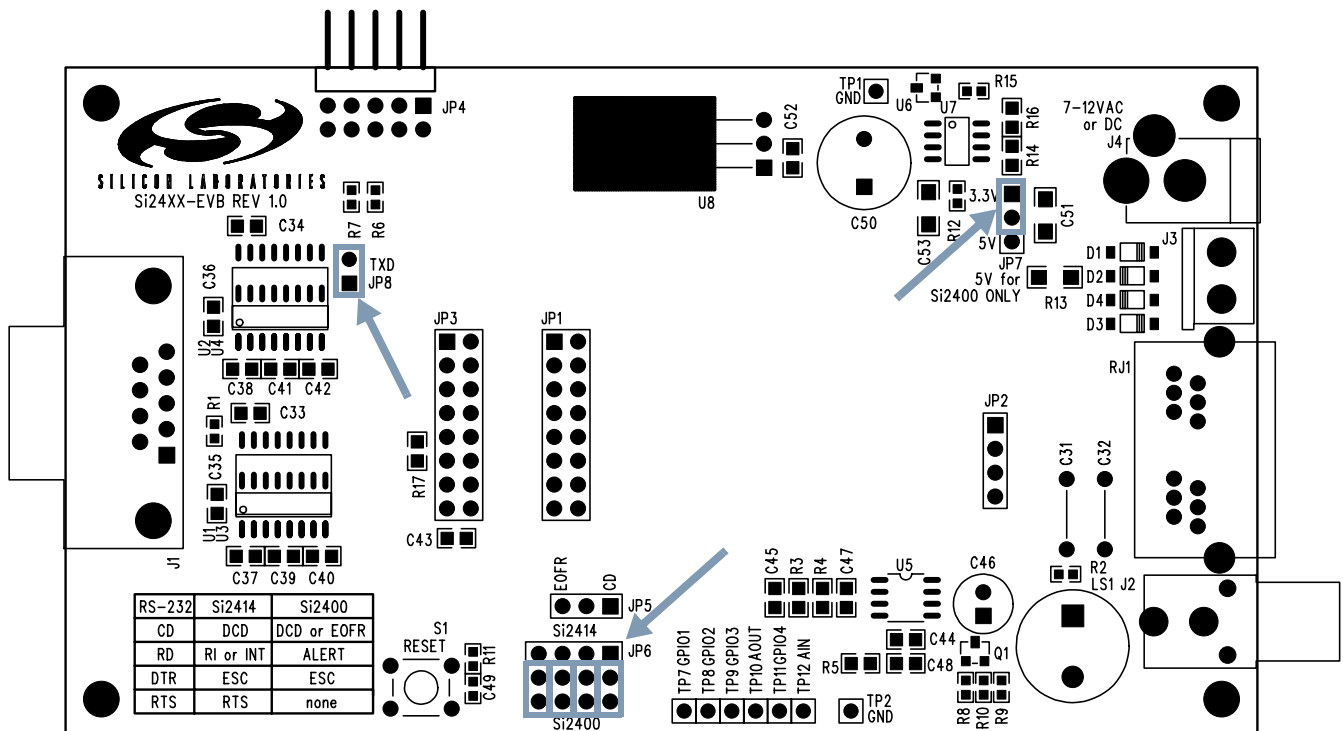

Figure 1. Standard Factory Jumper Settings (outlined in gray)
1. Set jumpers according to Figure 1
Check all jumper settings on the Si2400URT-EVB before applying power. Figure 1 shows the standard factory jumper settings. These settings configure the Si2400URT-EVB for RS-232 serial operation. Any standard terminal program configured to communicate through a PC COM port can be used to communicate with the Si2400URT-EVB. The transceiver jumper (JP8) should be connected whenever the RS-232 UART interface is used. For normal operation, JP6 should have jumpers at positions 2-3, 5-6, 8-9, and 11-12.
This operation mode uses the standard factory jumper settings illustrated in Figure 1 on page 3. The Maxim MAX232A transceivers interface directly with the TTL levels available at the serial interface of the Si2400 and, using internal charge pumps, make these signals compatible with the RS-232 standard. This simplifies the connection to PCs and other Data Terminal Equipment (DTE). The transmit jumper (JP8) should be connected whenever the RS-232 UART interface is used. For normal RS-232 operation, JP6 should have jumpers at positions 2-3, 5-6, 8-9, and 11-12. The signals available on the Si2400URT-EVB serial interface (DB9 connector) are listed in Table 4.